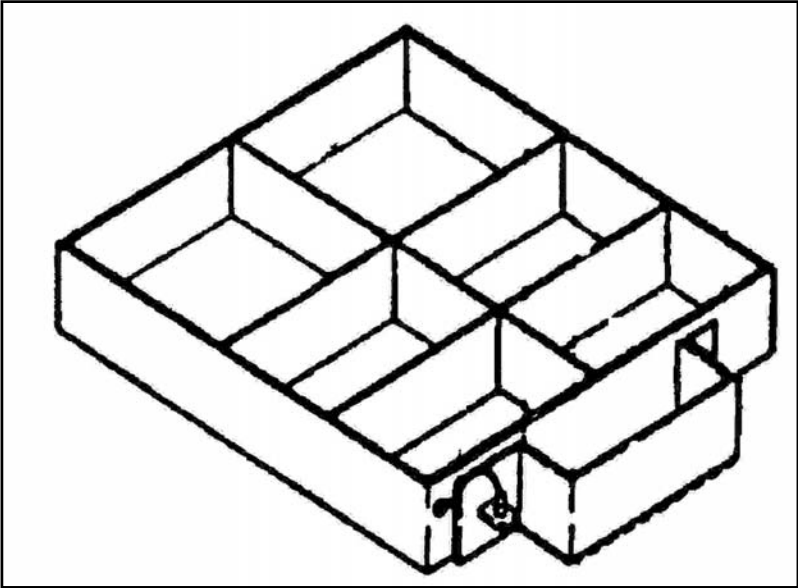

Figure 3-11. Condiment Tray
- m. Have them install the condiment tray inboard onto any vertical roof post (see Figure 3-11).